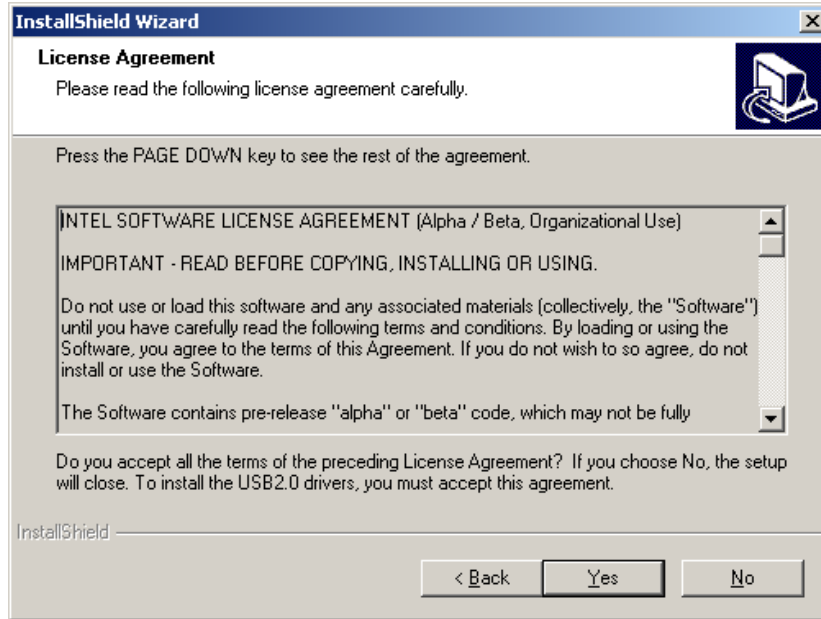

Figure 6-17: USB Driver License Agreement
Step 3: Click **NEXT** and a license agreement appears (Figure 6-17).